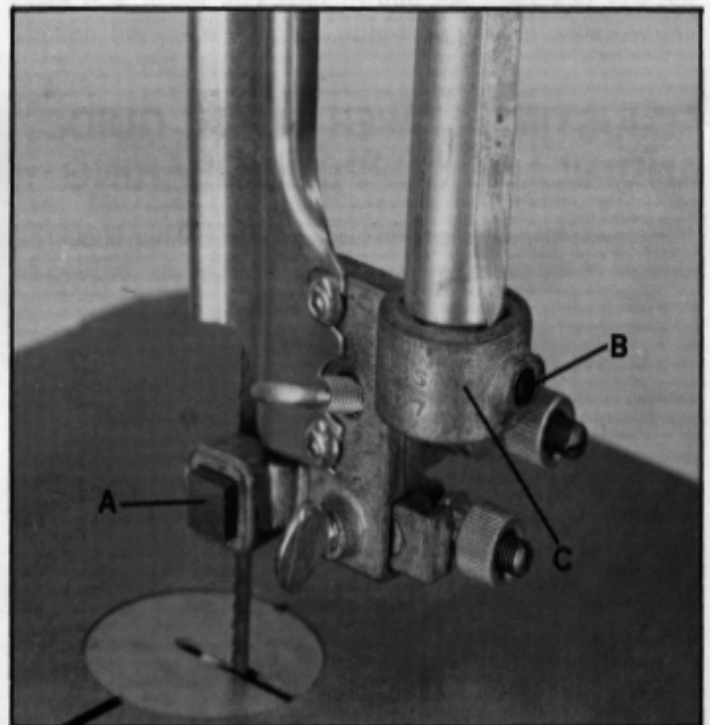

Fig. 35
The upper blade guide assembly should also be adjusted so that the blade guides (A) Fig. 35, are flat with the blade. If an adjustment is necessary, loosen screw (B) and rotate the complete guide assembly (C) until the blade guides are flat with the blade.